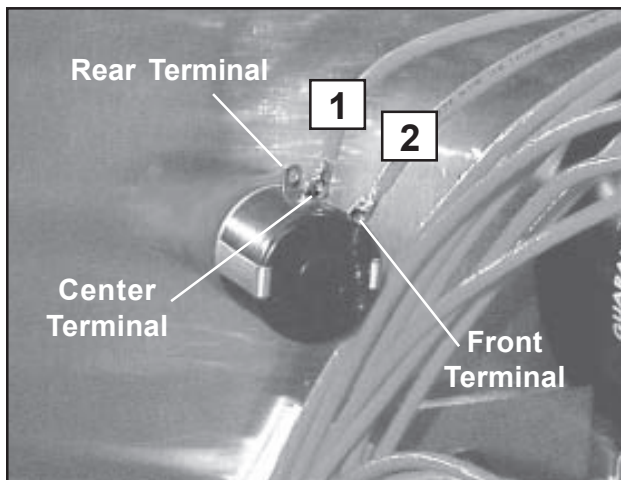

Figure 110. Wire Terminals on the Rear of the Potentiometer
1. Place the new potentiometer into the electronics compartment door from the rear. **Note:** Make sure that the three terminals on the rear of the potentiometer are on top (Figure 110).
Note: The three soldered wire terminals on the potentiometer are shown in Figure 110: